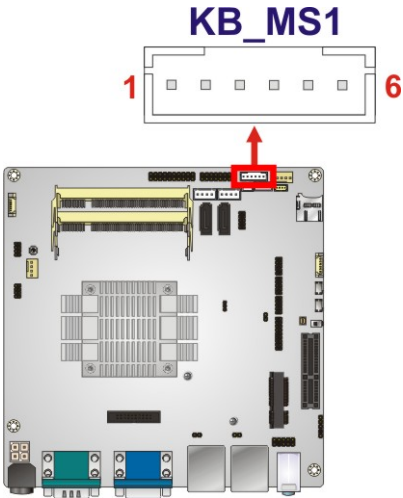

Figure 3-11: Keyboard and Mouse Connector Location
**CN Location:** See Figure 3-11